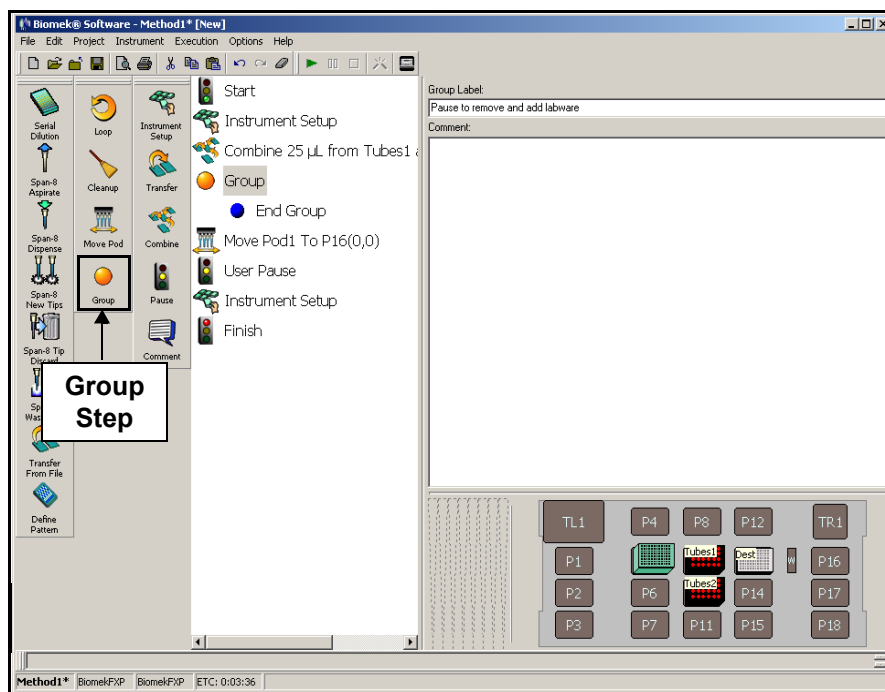

Figure 6-13. Configured Group step
3. In **Group Label** of the step configuration, enter **Pause to remove and add labware** (Figure 6-13).